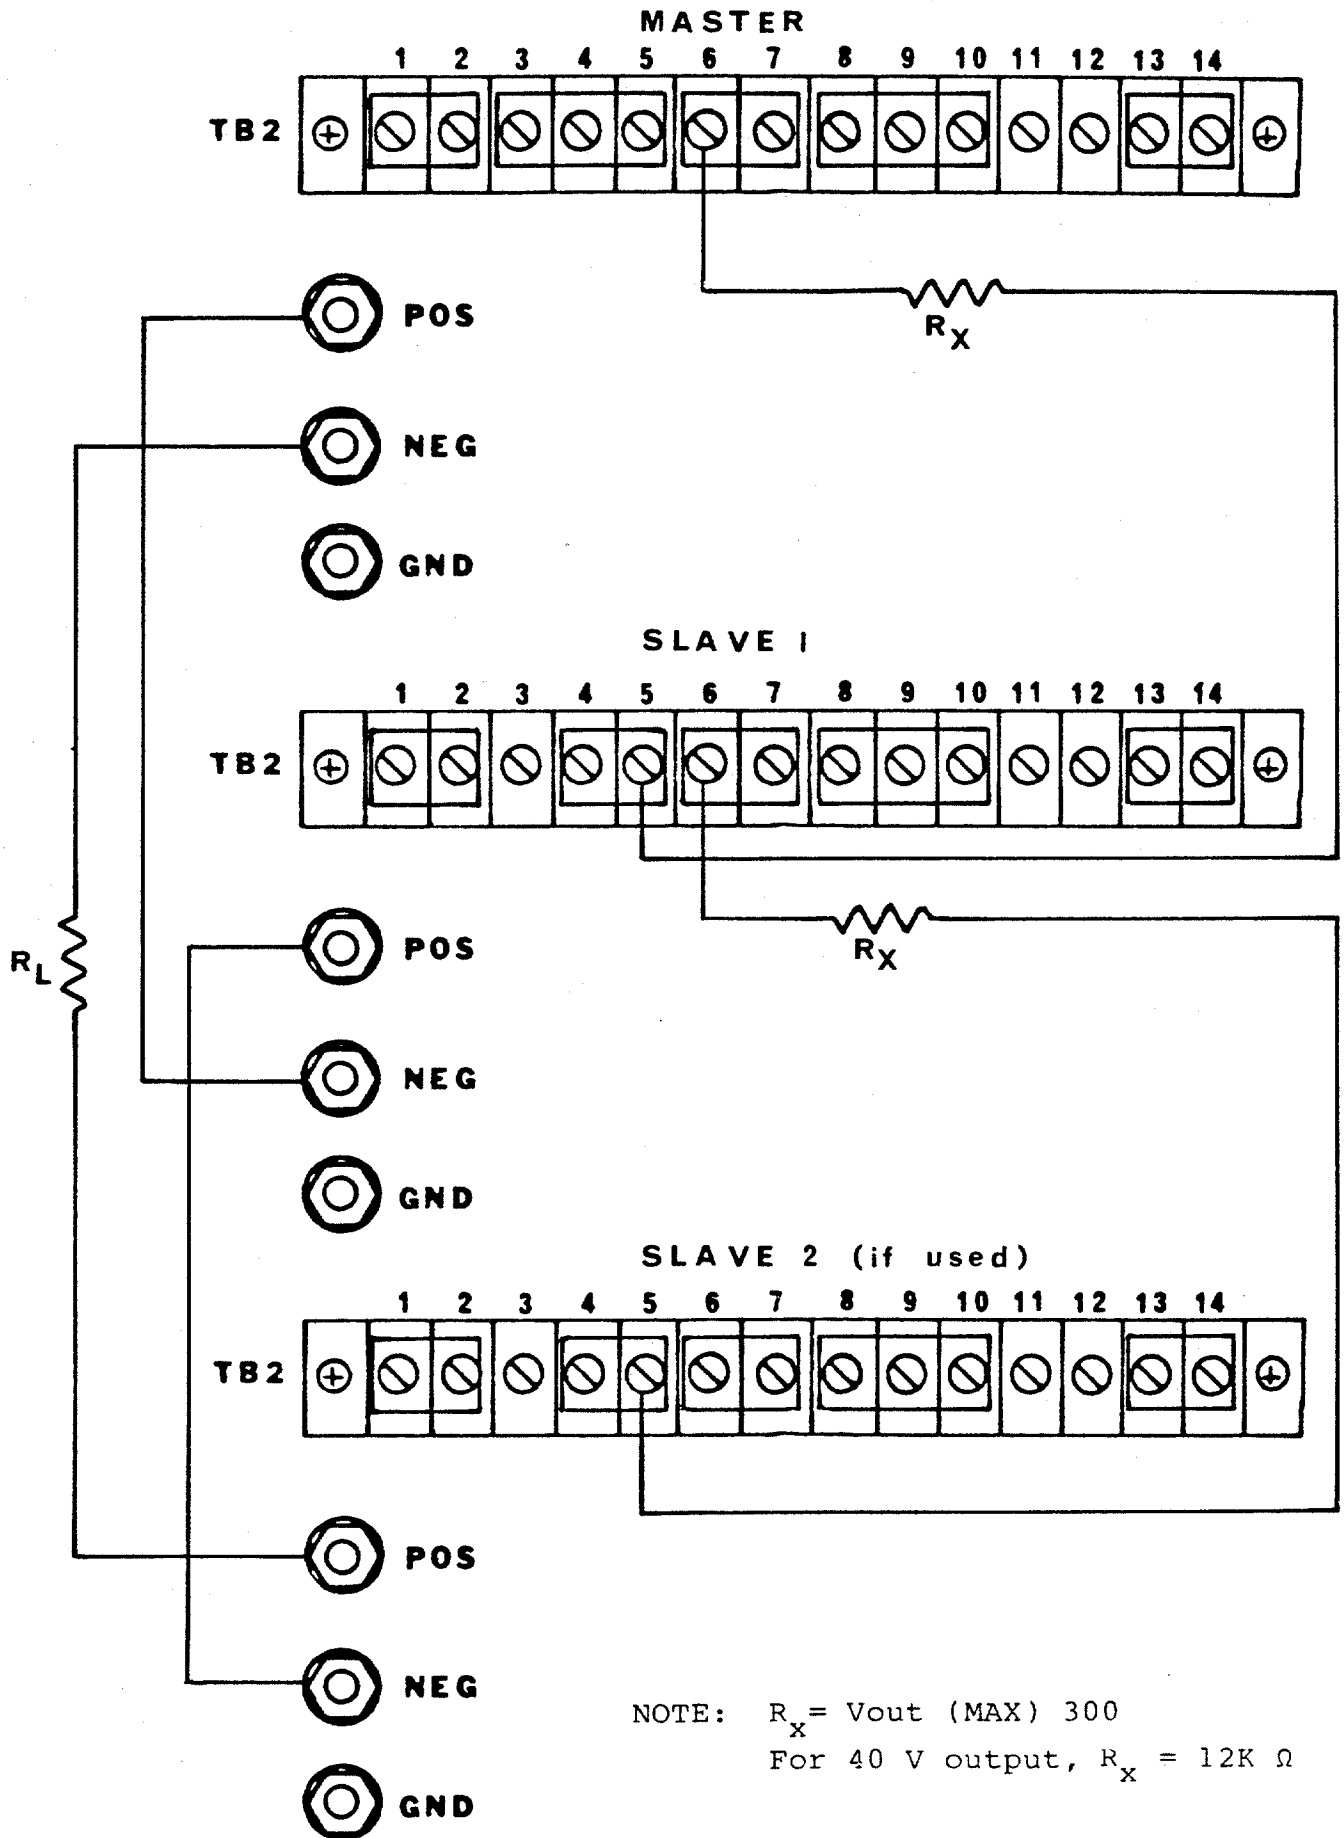

Figure 3-9. Auto-Series Operation
j. Auto-Series Operation. In the auto-series mode of operation, a master/slave configuration is established. With two or more supplies connected in series, one is established a master and the remaining units as slaves. The master supply must always be the most positive unit. When operating in the auto-series mode, voltage control potentiometer settings determine the percentage of total load voltage contribution by slave units. Current control potentiometers of the slave units are active and should be set to maximum clockwise position. See figure 3-9 for the strapping requirements.